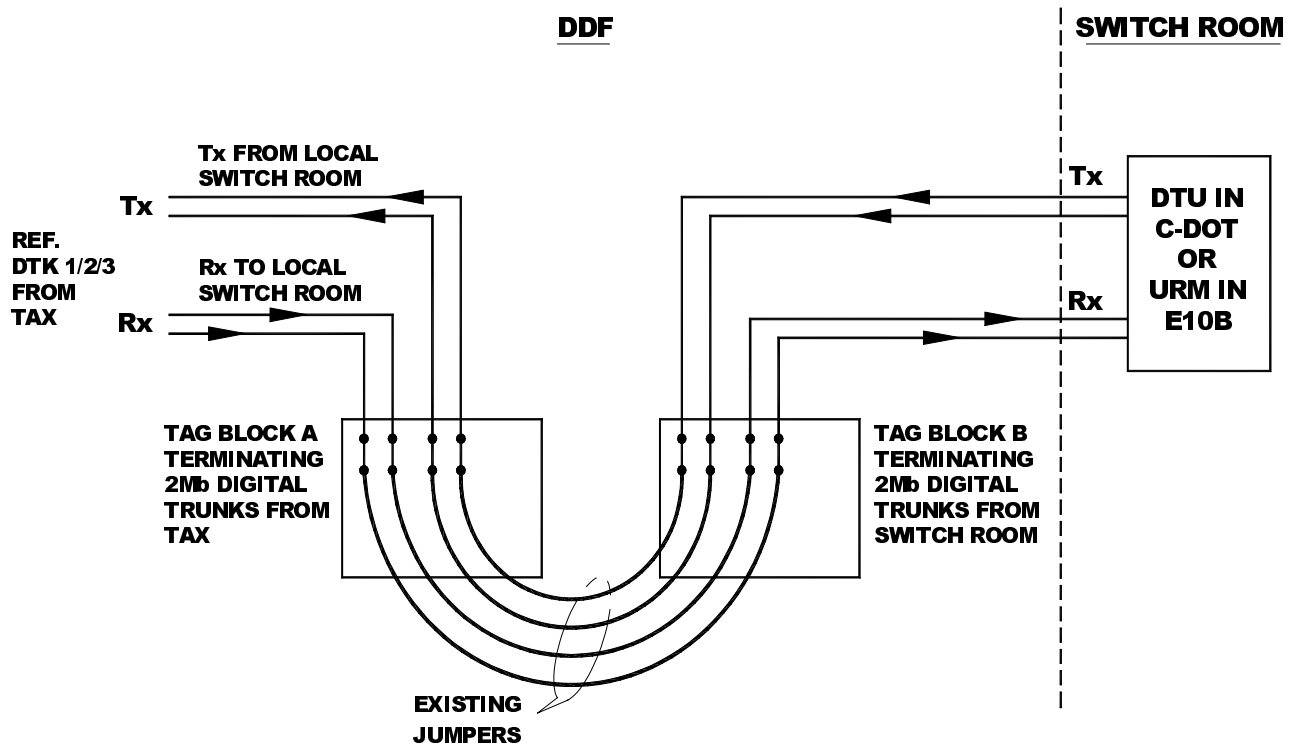

Figure: 4.2d
Notes: (Refer fig 4.2d and 4.2e)
- Initially the Tx-Rx exist at DDF as shown in fig 4.2d
NOTE :(Refer figures 4.2d , 4.2e)